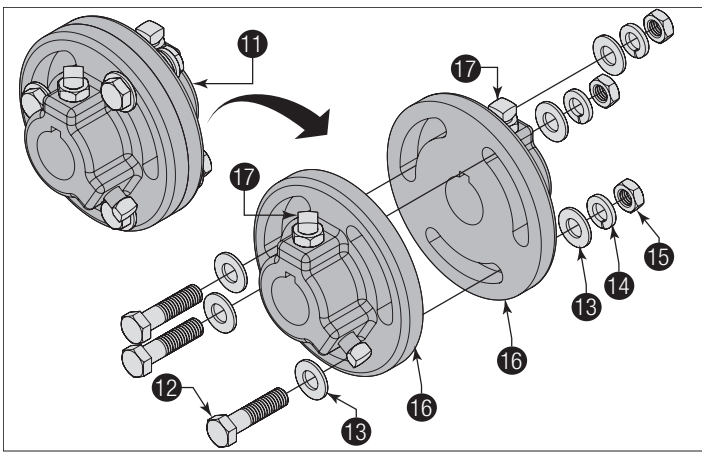
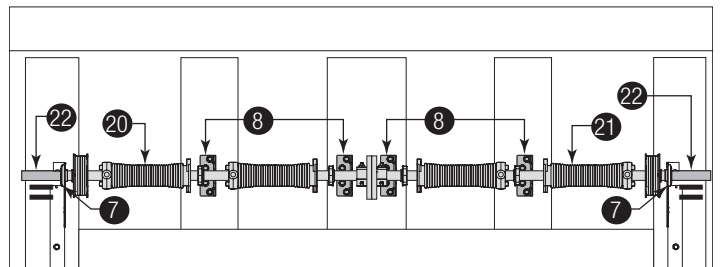
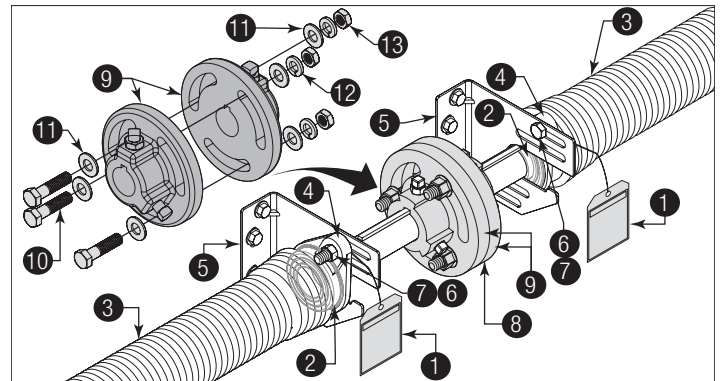

Figure 11
Figure 15
Figure 18
See Figure 11 through Figure 15 for the following steps.
See Figure 18 for the following steps.
- Counterbalance lift cables are secured at bottom corner brackets, See Figure 15 through Figure 18.